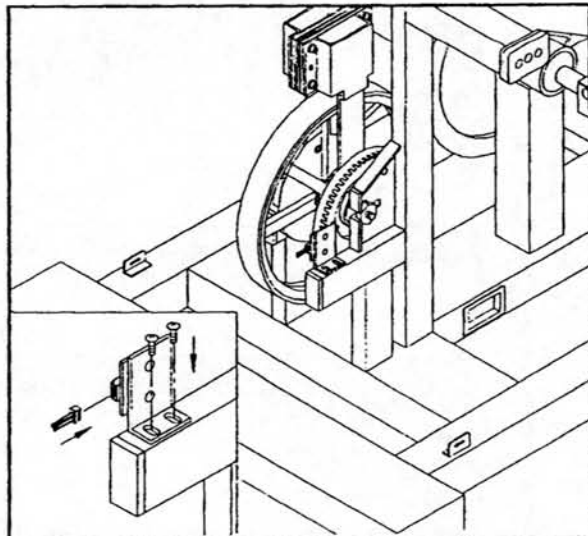

Fig.6-2
1. Secure the optical switch with two screws. Make sure the space between the OPTICAL SWITCH and TACHOMETER WHEEL must be kept. If any contact cause noise from them, adjust the OPTICAL SWITCH and make sure no touch from them. Then screw the two screws securing the optical switch, and then plug the connector into its socket on the OPTICAL SWITCH (see fig.6-2).